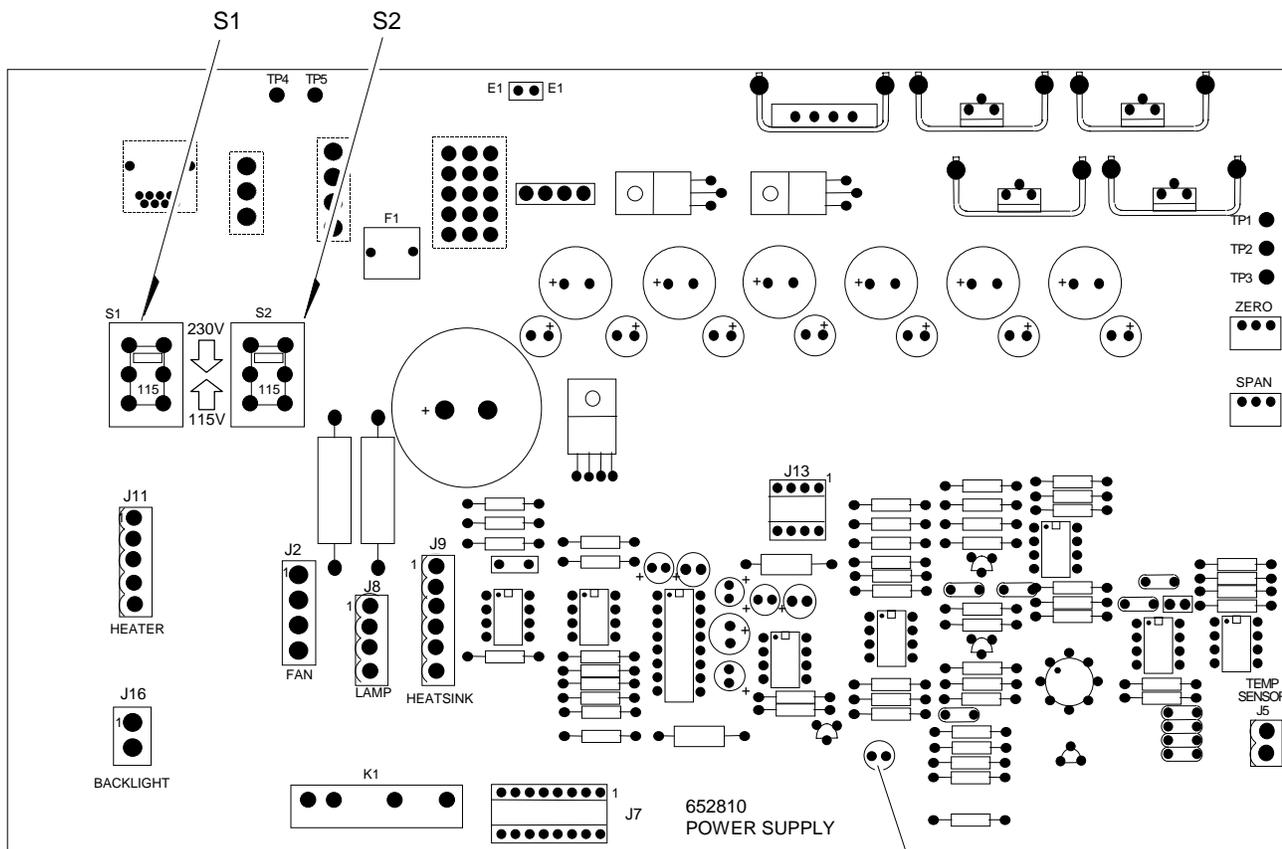

FIGURE 2-1. POWER SUPPLY BOARD
This instrument was shipped from the factory set up to operate on 115 VAC, 50/60 Hz electric power. For operation on 230 VAC, 50/60 Hz the installer must position voltage select switches S1 and S2 located on power supply board to the 230 VAC position (see Figure 2-1).
2. Apply power. On the Power Supply Board, verify that heater LED (D6) is ON. Refer to Figure 2-1.